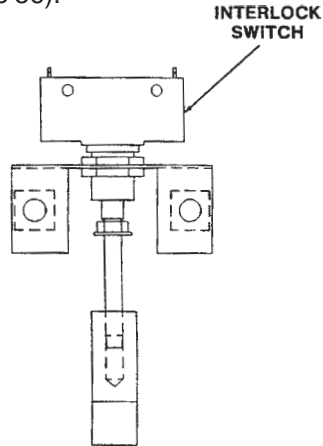

Figure 56. Interlock Switch Removal
- Remove the two electrical wires from the interlock switch (Figure 56).